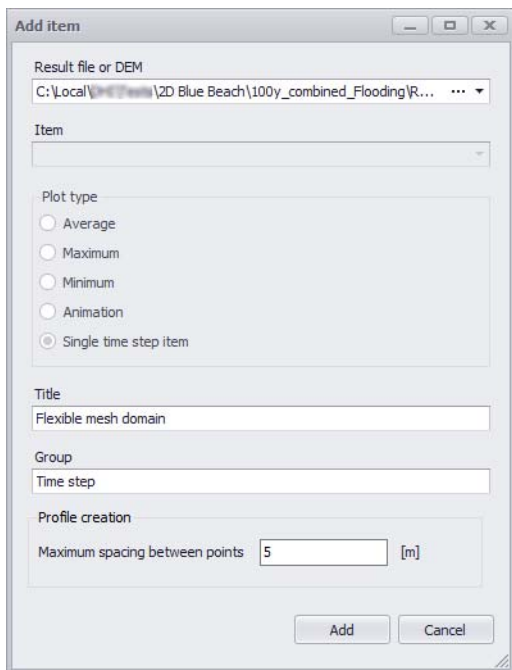

Figure 20.41 The 'Add item' dialog where the DEM file and settings are specified
- Select the DEM file, as well as the item if the file contains multiple items. A maximum spacing must also be specified: it controls the spacing between points along the DEM profile (Figure 20.41).